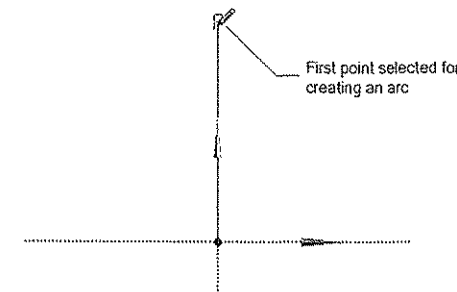

Figure 3-60 Specifying the start point of the arc
16. Move the cursor close to end point of Line 1; the symbol of Point Coincident (P) is displayed. Next, click to specify the start point for arc 1, as shown in Figure 3-60.